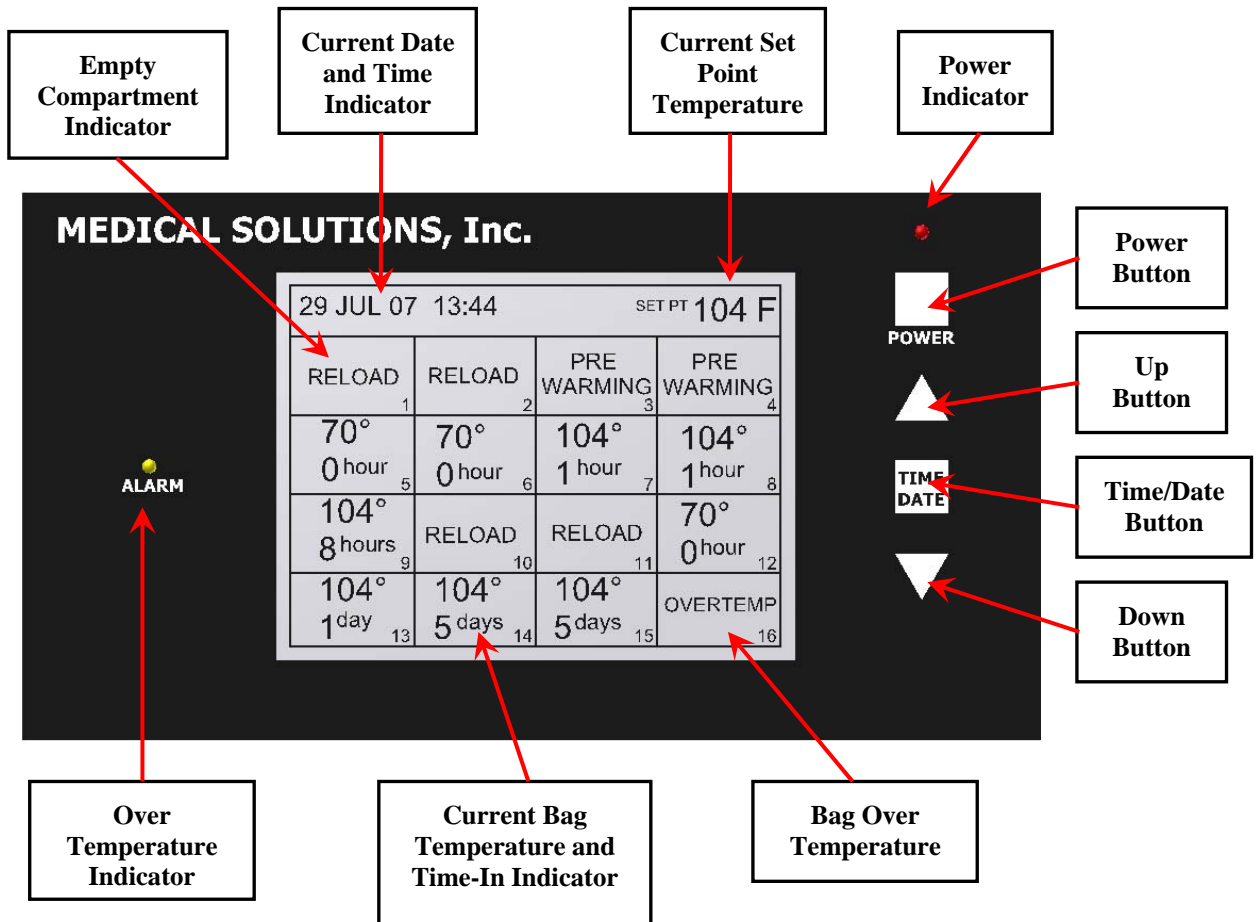

Figure 1 - Control Panel Display
The 16N1[®] holds sixteen (16) one liter fluid bags and is a warming system, which is mounted on a wheeled base. A temperature controller is used to regulate the heating of each fluid bag. The temperature controller has a large display (Control Panel Display. See Figure 1) to show:
2. The Control Panel Display (see Figure 1) provides critical information for the operation of the 16N1[®] including:
NOTE: Temperatures and times indicated in Figure 1 are examples only. Actual time to reach temperature may vary depending on factors such as the starting temperature of the fluid bag.
5. Place the labeled bags into the 16N1[®], one bag per compartment. As the bags are placed into the 16N1[®], the Control Panel Display will change from “Reload” to “Pre-Warming”. After a seven (7) minute Pre-Warming cycle, the actual temperature of the fluid in the bag and length of time the bags have been warming will be displayed. (See Figure 1).
5. On the front of the 16N1[®] is the Control Panel. Press and hold the Power Button for one second (See Figure 1).
- o NOTE: The start-up process completes with the Control Panel Display showing a grid pattern resembling the heater compartment (See Figure 1). The display will show “RELOAD” for each compartment.
- a) Press the “Time/Date” button for three (3) seconds.